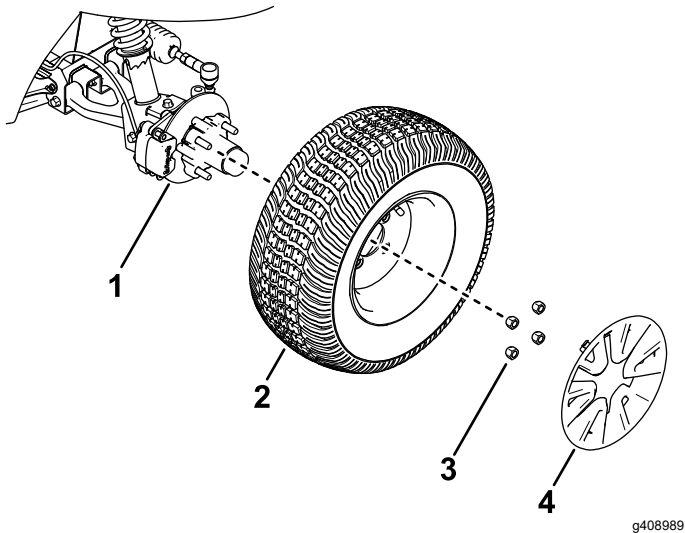

Figure 27
2. Remove the wheel cover and the 4 lug nuts that secure the wheel to the hub (Figure 27).
4. Align the holes in the wheel to the studs of the hub and assemble the wheel to the hub with the valve stem outward (Figure 27).
5. Secure the wheel to the hub using the lug nuts (Figure 27).